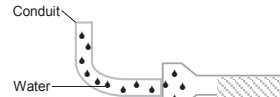

Figure 1. Incorrect
- All conduit connected electrical devices, including GO™ Switches, are advised to be sealed against water ingress through the conduit system. See Figures 1 and 2 for best practices.